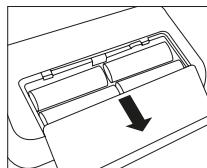

Fig.1
- Open the battery cover on the bottom of the monitor (see Fig. 1). Insert the batteries (see Chapter 13 'Technical data'). Ensure correct polarity ('+' and '-') when inserting batteries. Close the battery lid. The monitor switches automatically to the date/time function, and when used for the first time the display shows the number "3 1" for the day and "12" for the month. The date set is thus the 31st December. Set date and time as described below.